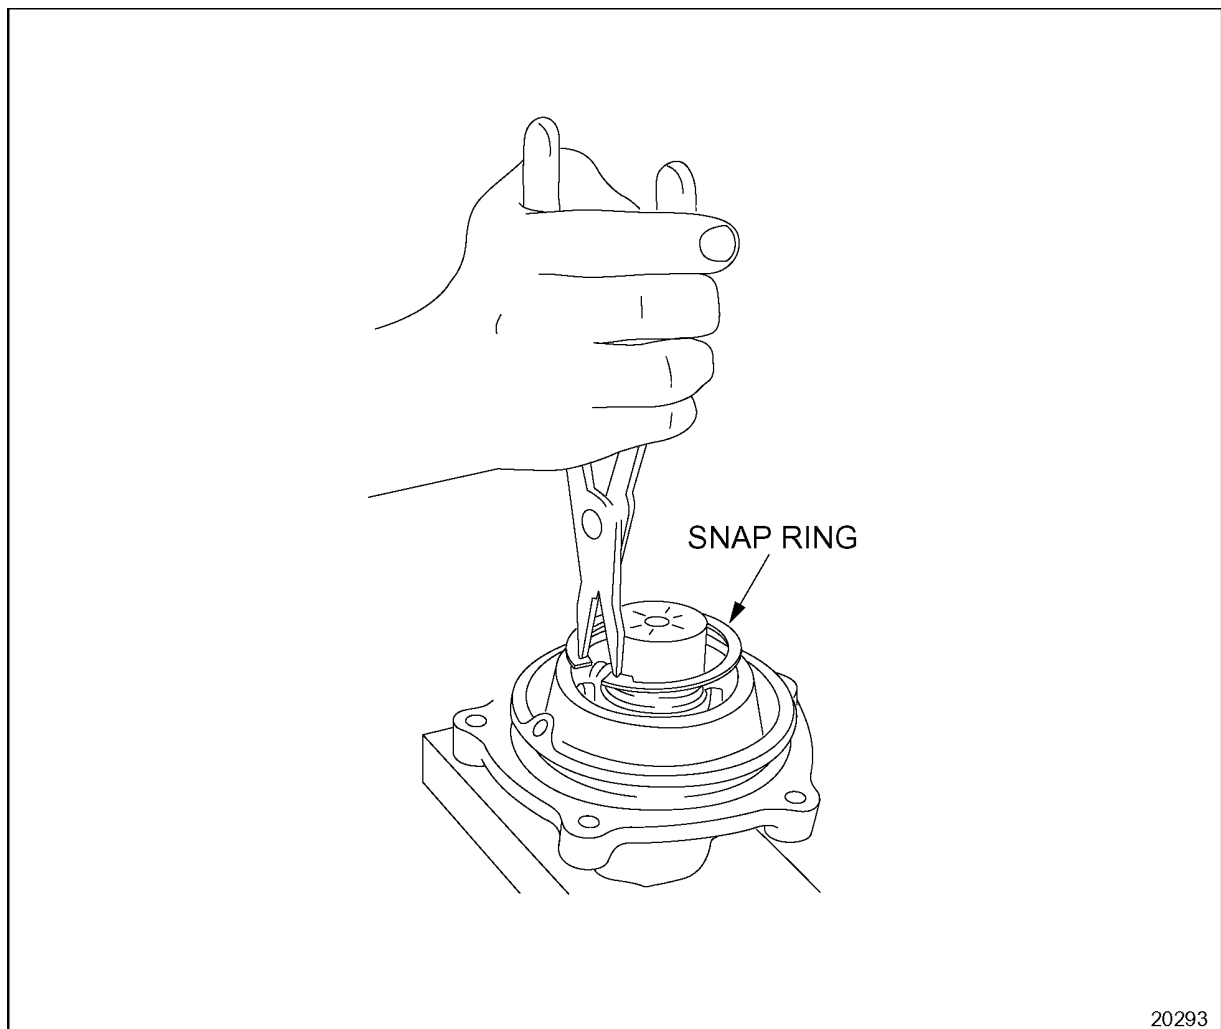

Figure 1-394 Snap Ring Removal
10. Remove the snap ring from the accessory drive housing. See Figure 1-394.